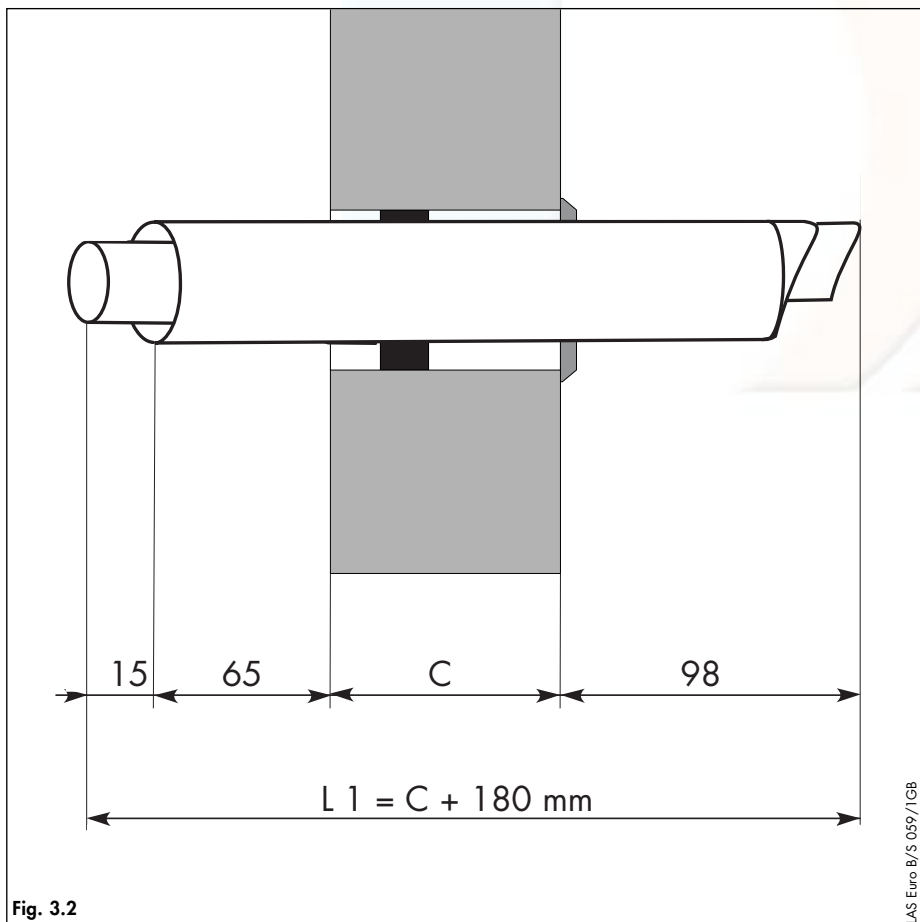

Fig. 3.2
- Cut the air duct and flue duct to the lengths shown in figure 3.2.